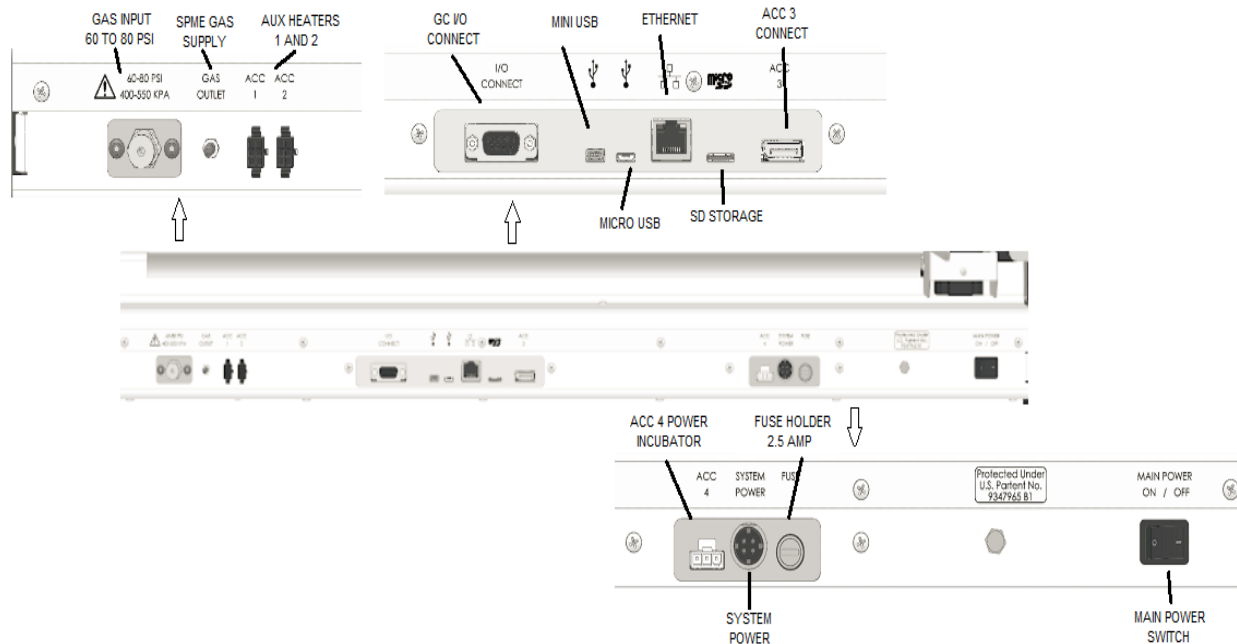

Figure 1.6.2a: Connections on the Back of the FLEX
- **NOTE: See Figure 1.6.2a below for the locations of the connections on the back of the FLEX**